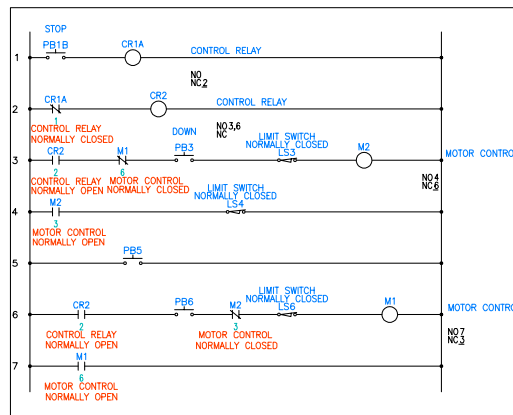

Figure 6-48 The copied components
17. Next, select limit switch LS3 from 3rd rung and copy it at **15,15**. Again, select LS3 and copy it at **16,13**. You will notice that the limit switch is inserted in rung 4 and rung 6. Keep the values in the **Description** area intact. Figure 6-48 shows the copied components.